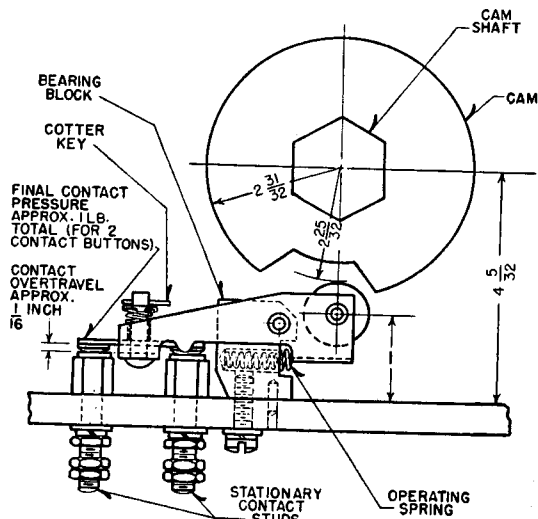
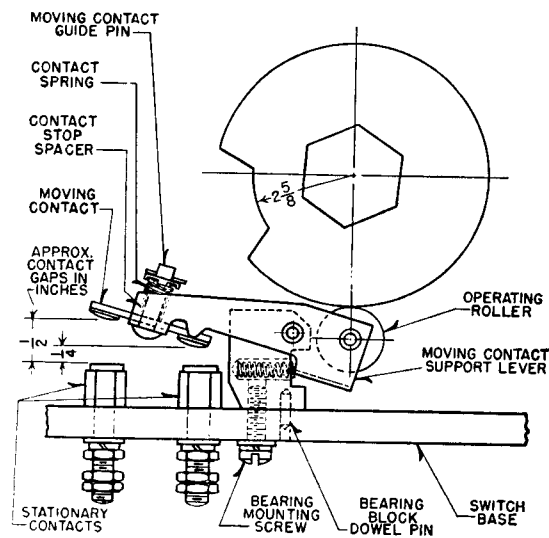

Fig. 4—Normally Closed Type SM Switch Unit Shown in Relationship to an approximately 6 Inch Diameter Operating Cam (Dwg. 5-C-4907)
Fig. 5—Normally Open Type SM Switch Unit Shown in Relationship to an approximately 6 Inch Diameter Operating Cam (Dwg. 5-C-4907)
The relationship between a typical Type SM Switch Unit and the cam assembly is shown by Fig. 4.
When the cam shown in Fig. 4 is rotated, the operating roller is pushed down and the contacts are opened as shown by Fig. 5.
When the contacts are in their closed position, there should always be ample clearance between the cams and the rollers as illustrated by Fig. 4.
3. MOVING CONTACTS—The moving contact may be removed by simply taking out the cotter key. A contact assembly may be readily removed from a switch base by taking out only the bearing mounting screw. When assembling a complete switch mechanism on a switch base, it should be made certain that the bearing block dowel pin shown in Fig. 5 is in place. This dowel pin is absolutely necessary to hold the switch assembly in the proper position. Also, check to see that the spacer on the moving contact pin is in place. This spacer or bushing is used to limit the overtravel of the moving contact assembly and prevents the contact spring from being solidly compressed or deformed.
5. CONTACT GAP — OVERTRAVEL — PRESSURE—The contact gap is the distance between the moving and stationary contacts when the switch is in the open position. All switch unit assemblies should have approximately $\frac{1}{4}$ inch gap between the rear contact buttons and $\frac{1}{2}$ inch gap between the front contact buttons as shown on Fig. 5. The total of the two gaps should be approximately $\frac{3}{4}$ inch.
Type SM Switch Units—Figs. 4 and 5